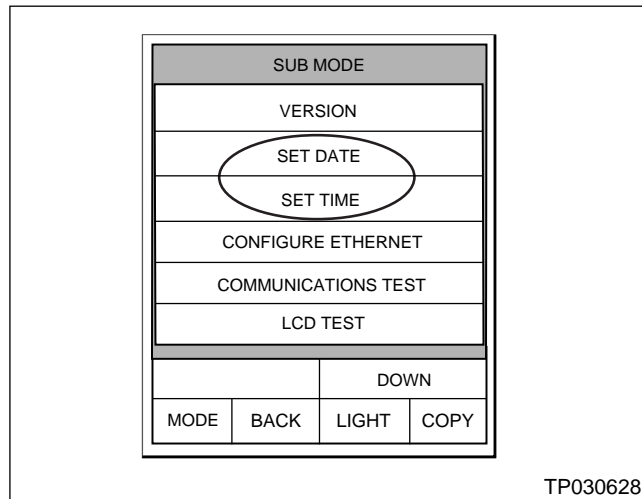

Figure 2
C. Touch **SET DATE** (see Figure 2).
D. Touch **SET TIME** (see Figure 2).